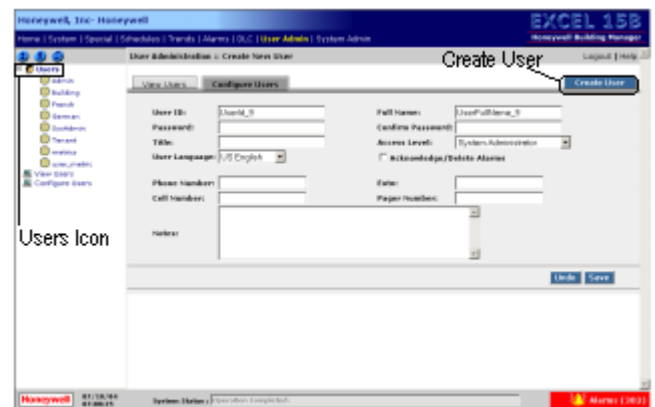

Fig. 42. User Administration::Create New User Page
7. Click “Save” to update the new user’s profile in Excel 15B. Expand “Users” icon to see the new user in the list (refer to Fig. 42).
NOTE: You can also select a user's name from the list displayed under “Users” icon (refer to Fig. 42).